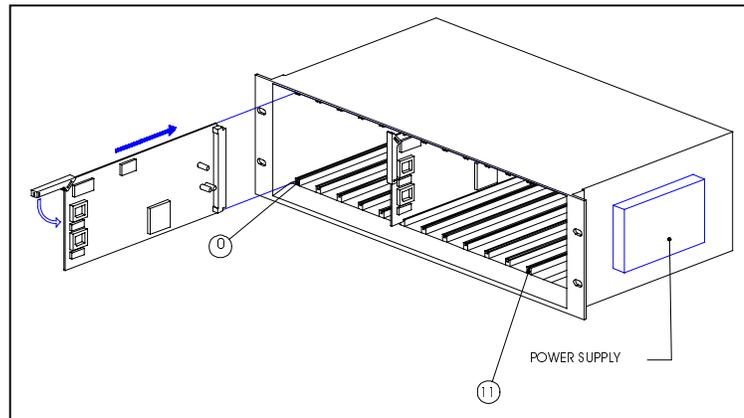

Figure 4.1. Sliding the Switch Card in the Rack.
1. Carefully slide the card into the chosen slot in the Rack. (see Figure 4.1)